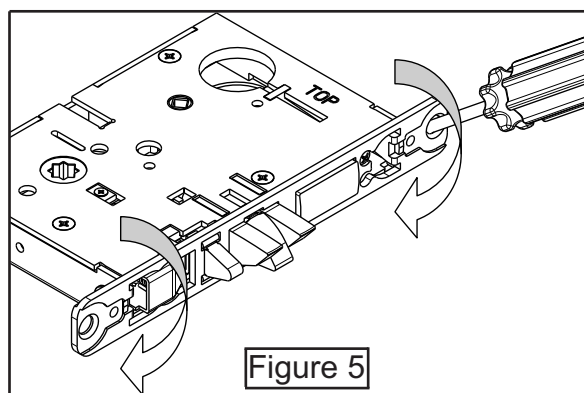

Figure 5
Step 5) Rotate lock front to match bevel of door as shown (Fig. 5)